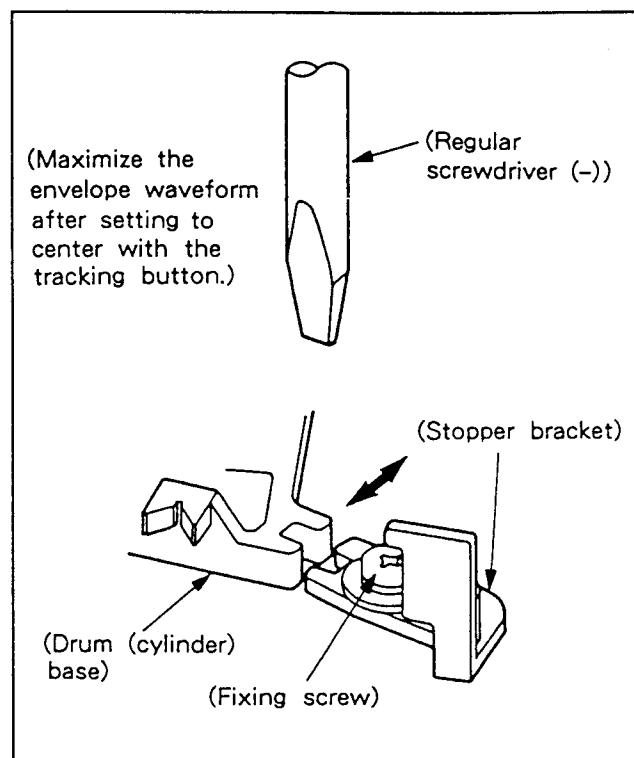

Fig. 5-4-9
- (2) Tracking (X Value) Adjustment (See Fig. 5-4-9.)